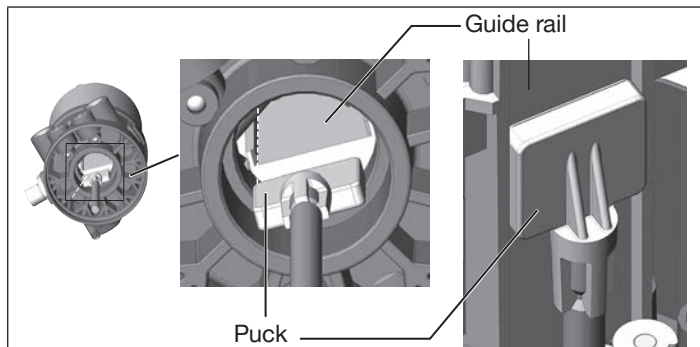

Fig. 8: Aligning the puck
- Push the control head onto the actuator. The puck must be aligned in such a way that it is inserted into the guide rail of the control head (see “Fig. 8”).